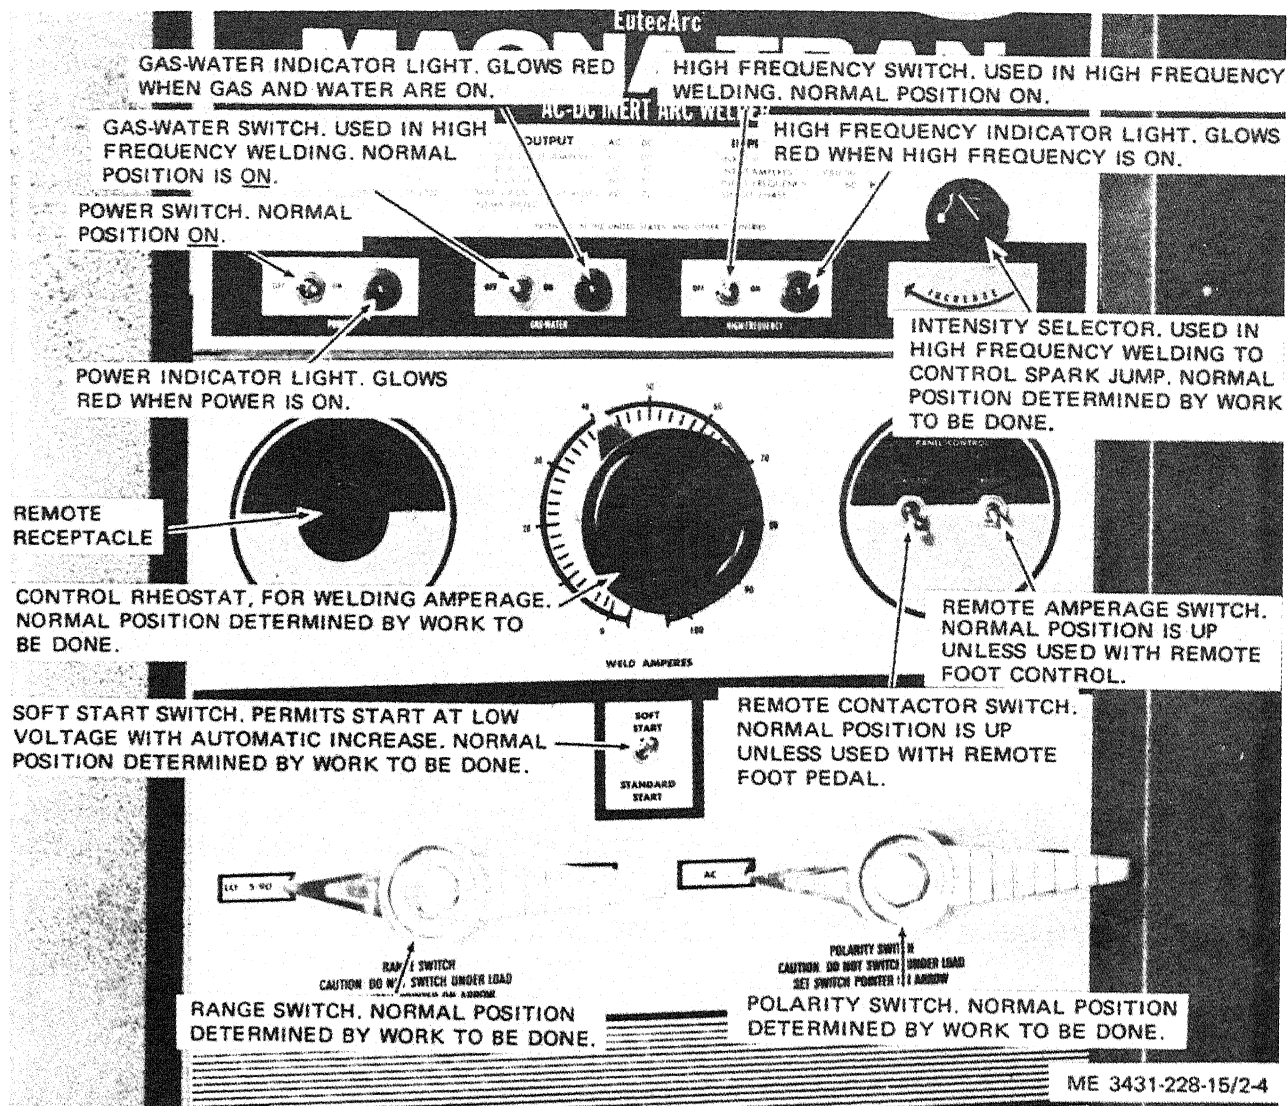
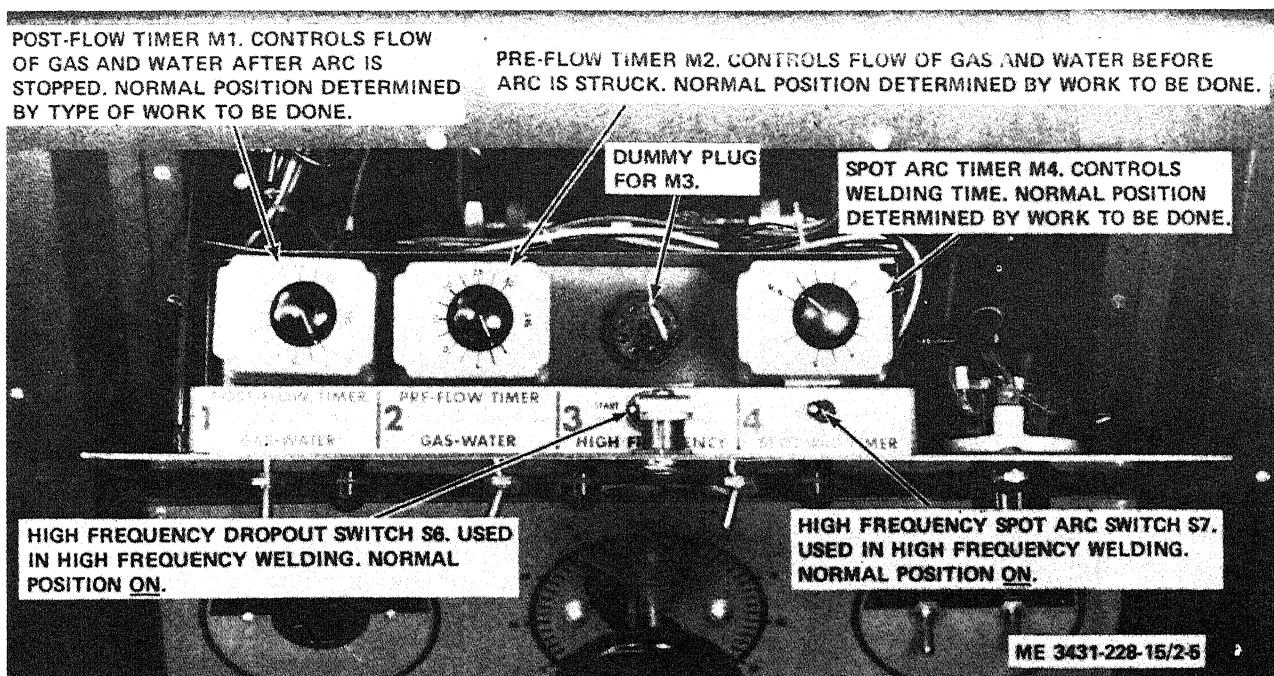

Figure 2-4. Controls and instruments, front panel.
Figure 2-5. Timer drawer, controls.
a. Figure 2-4 illustrates the front panel of the machine, which contains all operator's controls and instruments. Figure 2-5 illustrates the controls in the timer drawer.
(15) **SPOT ARC TIMER switch**. This two-position switch, located inside the high frequency drawer, (fig. 2-5) switches the spot arc timer on or off. In the OFF position, the timer is disabled.
(16) **HIGH FREQUENCY dropout switch**. This two-position switch, located inside the high frequency drawer, (fig. 2-5) permits choosing the method of starting the high frequency circuit. In the START ONLY position, operation is controlled by the pilot relay. In the CONTINUOUS position, neither the pilot relay control nor the high frequency timer will affect the high frequency dropout.
(17) *PRE-FLOW TIMER control.* This variable control is on top of the timer (fig. 2-5) and controls the length of time that gas and water flows before the arc can be struck. Time is variable from 1 to 30 seconds.
(18) *POST-FLOW TIMER control.* This control, located on top of the timer (fig. 2-5) varies the length of time that shielding gas and water will flow after
(19) *SPOT ARC TIMER control.* This control, located on top of the timer (fig. 2-5), varies the time that the timer allows the arc to be on. It is functional only when the SPOT ARC switch is not in the OFF position (para 3-16b).